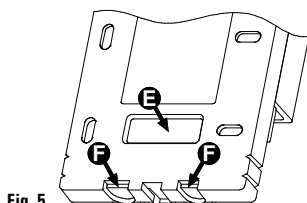

Fig. 5
- Back cable entry:** Open the hole **E** Fig. 5, with a screwdriver.
- Bottom cable entry:** Open one or both holes **F** Fig. 5, with a screwdriver.